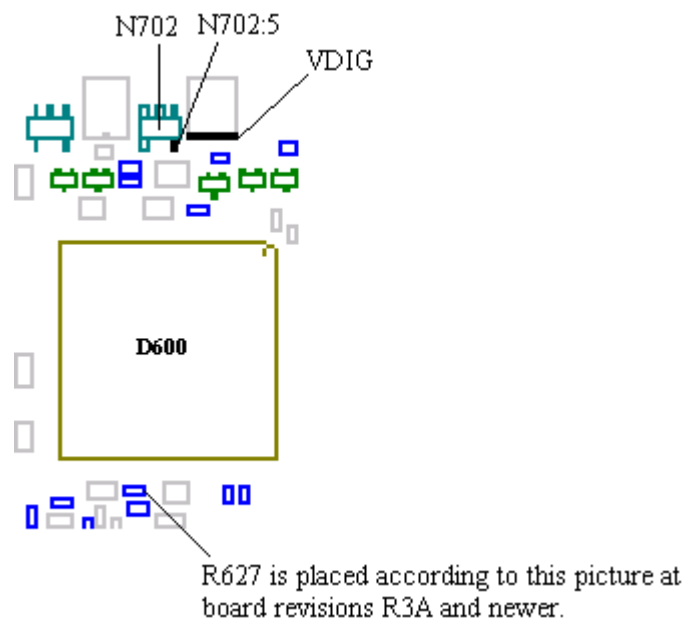

Fig. 7.6
- If the voltage is too low or missing, check the VDIG voltage (~3.2V) at N702 pin 5 or at C600 (fig. 7.6).
Check the solderings at D600 pins 64, 72, 73, 74 and 75 (fig. 7.6).